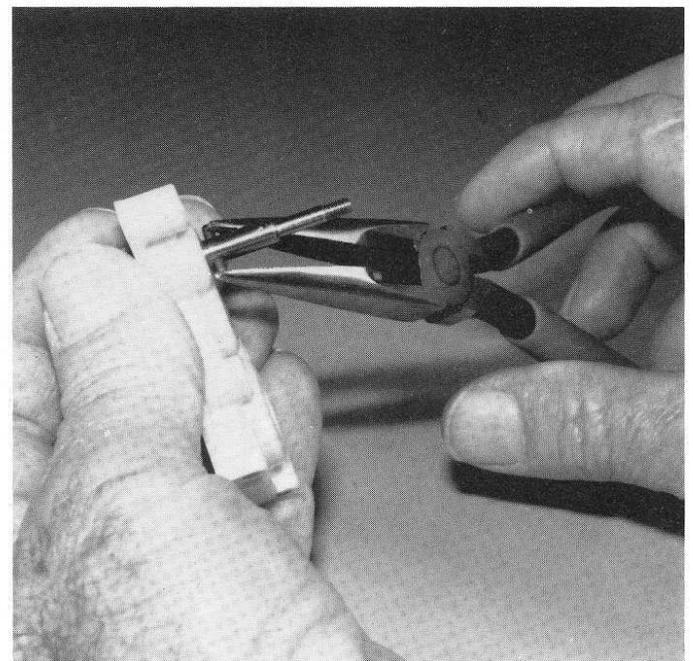

Fig. 60
□ **Fig. 60** Open Bag E and using a pliers, squeeze the roll pin into the hole in the shaft until it is equally spaced.